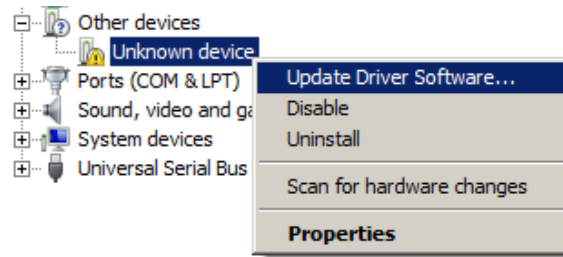

Figure 2: Right-click the unknown device listed in the Device Manager, and choose “Update Driver Software”.
2. To install these drivers, open the **Device Manager** (e.g. by running `devmgmt.msc` from the Start- or Run-menu, or navigating to it through Computer-Properties). An unknown device should be listed, as seen in Figure 2. Right-click this device and choose "Update Driver Software..."